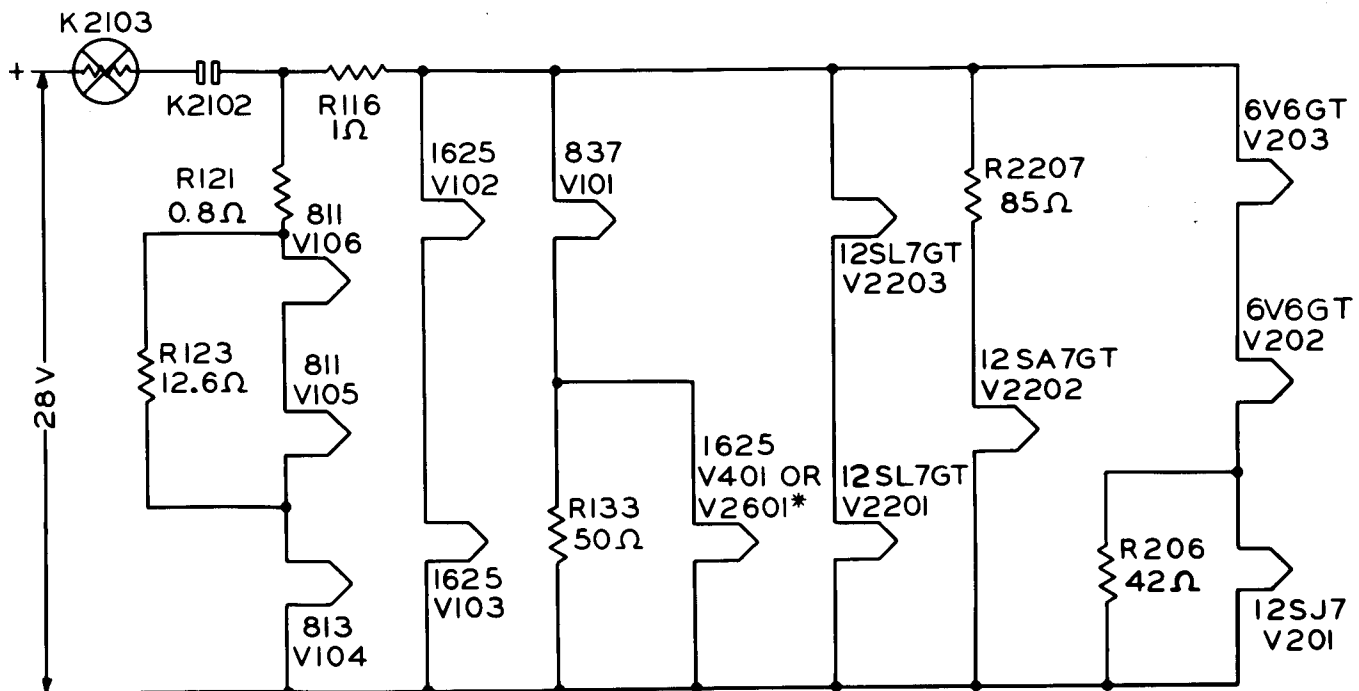

Figure 4-2. Filament Circuits
a. The filament power circuits of the transmitter are a combination of series and parallel connections. Power is from the 28 volt dc source. Figure 4-2. shows the filament connections in simplified form. All filament power is controlled by the contacts of primary power contactor K2102. The primary overload relay, K2103, operates to break the circuit when an overload occurs in the filament or associated circuits.